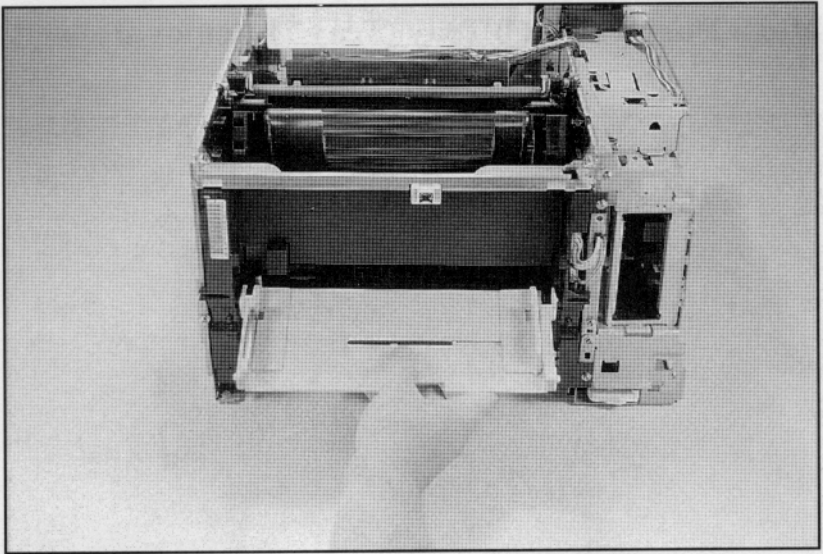

Figure 6-12 Rotate the Tray Down to Release the Hinge from its Slots
- 5 Rotate the tray down until it slides off its slotted hinges (about 120°)(see Figure 6-12).